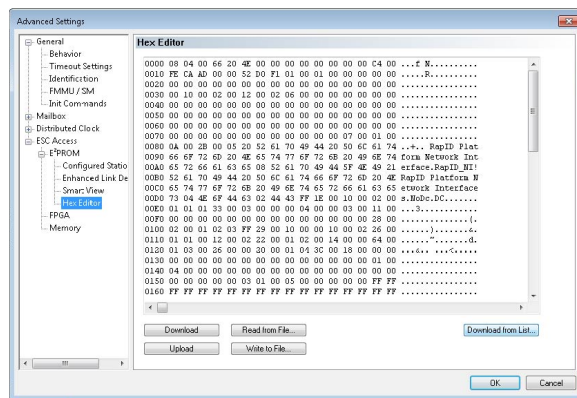

Figure 21. EtherCAT Options EEPROM Navigation
3. In the **Advanced Settings** window, navigate to **ESC Access > E²PROM > Hex Editor** and click **Download from List** as shown in Figure 21.